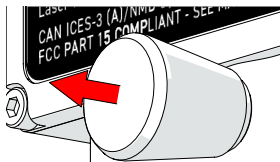

Fig. 34 - Pull out and twist pins
3. To remove the shroud, pull the pin and slide the shroud from the Tracker (Fig. 34).